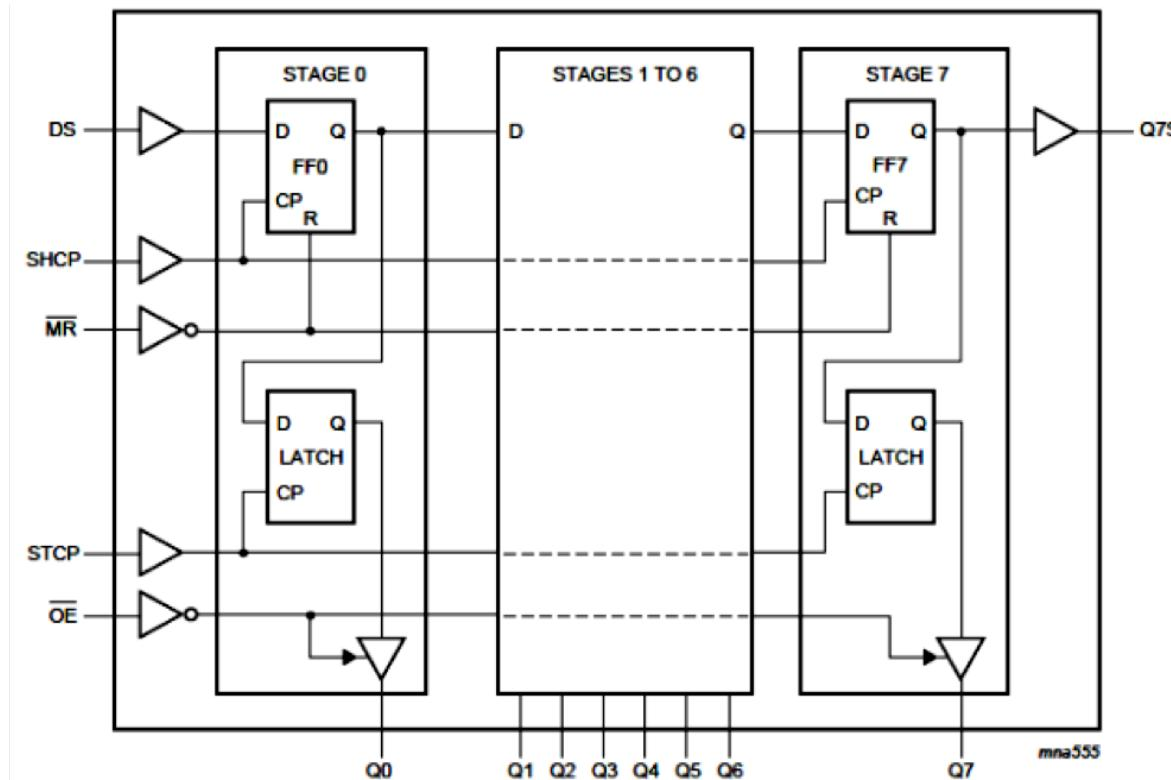

Figure 8.19 The functional block diagram of 74VHCT595 shift register.
- Figure 8.19 (next slide) shows the functional block diagram of this register.
- Figure 8.19 shows the functional block diagram of this register.
- The **STAGES 1 TO 6** in Figure 8.19 indicates that this stage is composed of 6 shift flip-flops, with total 8 flip-flops. All 8 parallel outputs are latched and controlled by the Output Enable (**OE**) signal.